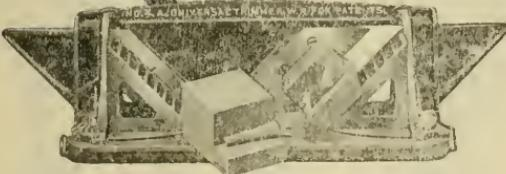

Fig. 58—TRIMMING INTO A CHECK
63. General. Trimmers-- Figs. 58 to 62, were invented primarily for the use of pattern makers and when used for other processes should be used only after you have learned to preform these operations thoroughly and quickly by hand. This machine, like the miter saw, should not be used by beginners in order to avoid learning to do the various process by hand. Always take very thin cuts when using
show the possible range of work by means of auxiliary gauges which are furnished with most trimmers. Fig. 58 illustrates the trimming of a shoulder for either a half lap or a tenon. This is called trimming into a check. The gauge as well as the knife stands at an angle of 45 degrees, which makes it possible to trim down to the bottom leaving a square and smooth surface.